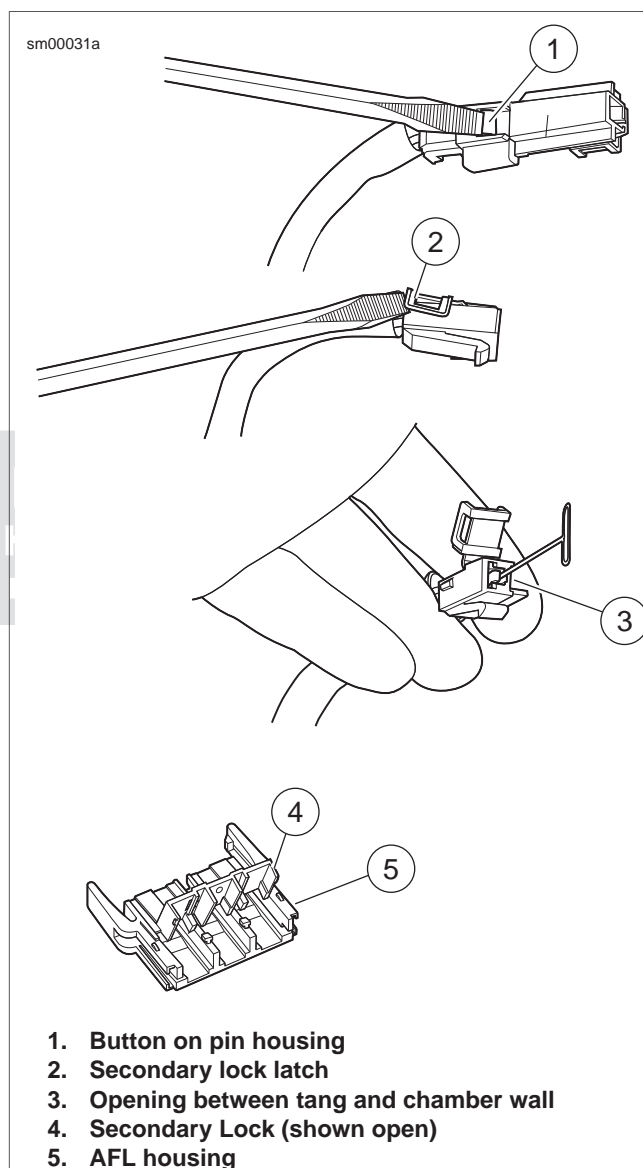

Figure A-27. 480 Metri-Pack Connector: Remove Socket Terminal
See Figure A-27. An AFL housing (5) is used on many ignition/light switches. The secondary lock (4) must be opened before removing the terminal from the housing.
See Figure A-27. Using small flat blade screwdriver, press button (1) on pin housing (red wire) side of the connector and pull apart the pin and socket housings.
1. See Figure A-27. Bend back the latch (2) slightly and free one side of secondary lock, then repeat to release the opposite side. Rotate the secondary lock outward on hinge to access terminal in chamber of connector housing.
2. On the mating end of the connector, note the tang in the square shaped opening centered next to the terminal. Gently insert the point of a stick pin or large safety pin into the opening (3) between the tang and the chamber wall until it stops.